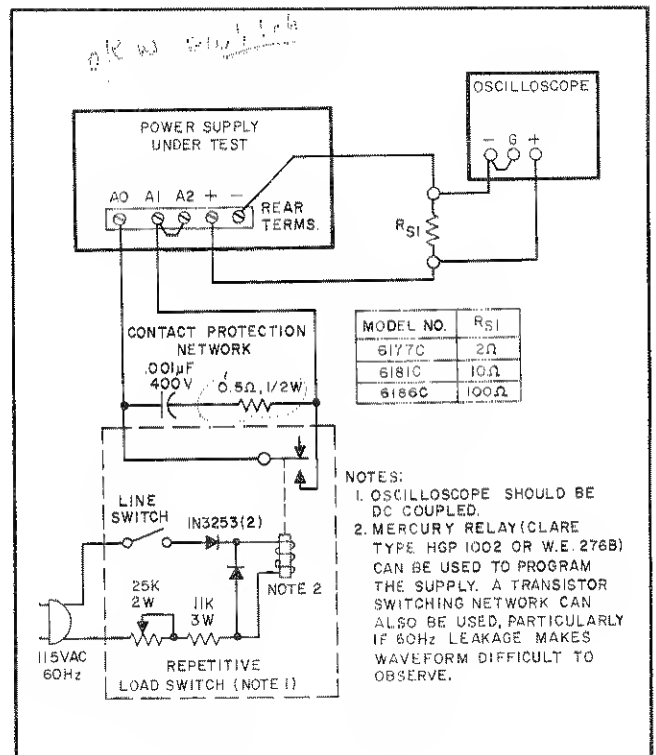

Figure 5-7. Programming Speed, Test Setup
- Connect test setup shown in Figure 5-7.